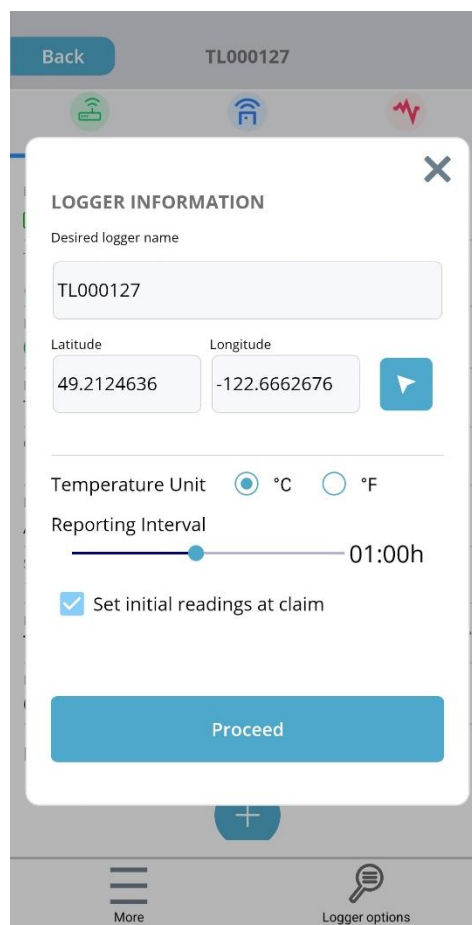

Figure 7: Logger Information Setup Menu
1. Upon claiming the Tilt Logger, the Logger Setup Menu will appear as shown in Figure 7. In this menu, set the data reporting interval, device name, and device location.